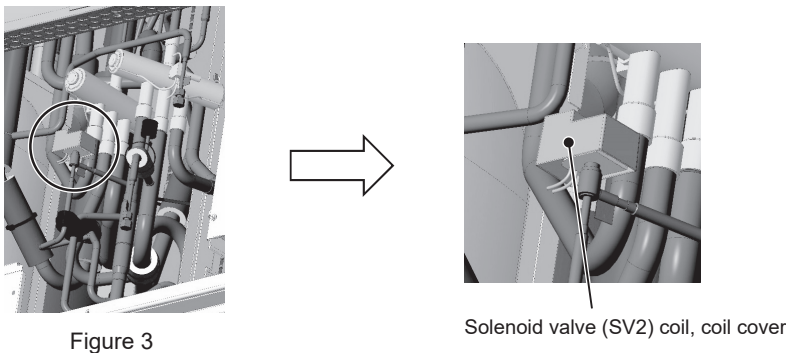

Figure 3
- (2) Remove the coil (four-way valves (21S4a, 21S4b), solenoid valve (SV2)), coil covers, and wires. (Figure 3)